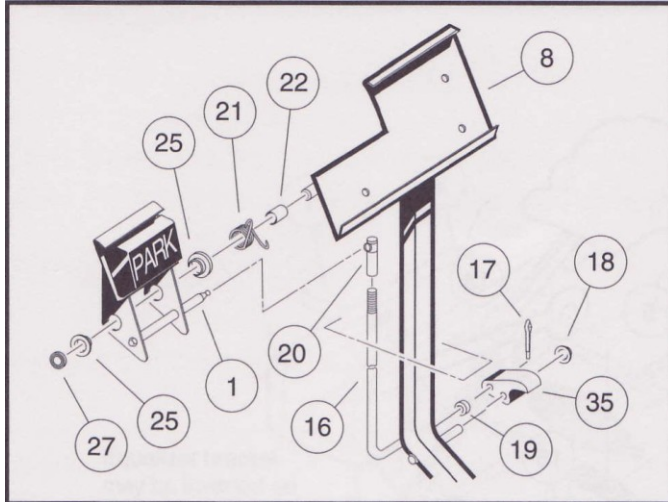
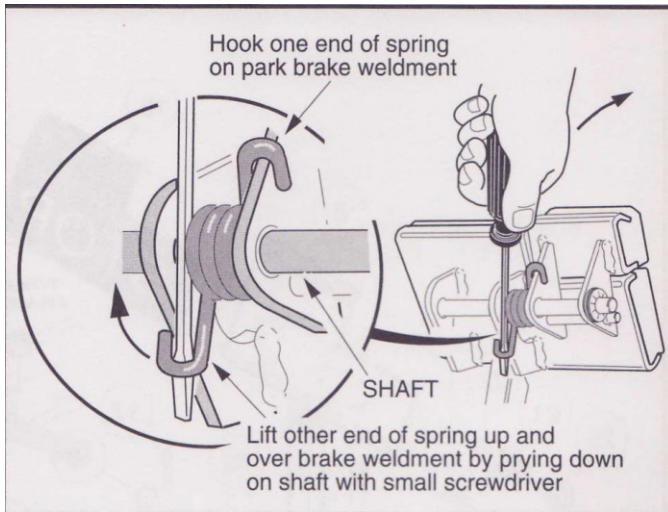

Figure 5-6
Figure 5-7
To remove the park brake pedal (1), remove the push nut (27), disconnect the torsion spring (21) (Figure 5-6) and slide the pedal off of the shaft. See preceding note.
1. From the bottom side of the floorboard, insert the park brake rod (16) through the brake pedal assembly opening shown. Then install the park brake pawl (35) onto the shaft on the brake pedal assembly weldment (8) and also insert the park brake rod (16) into the park brake pawl (Figure 5-6).
2. Install the push nut (18) onto the park brake pawl shaft.
3. Install the spacer (22) and torsion spring (21) on the park brake pedal shaft on the brake pedal weldment.
4. Install the two bushings (25) in the park brake pedal and position the park brake pedal on the shaft on the brake pedal assembly weldment (Figure 5-6). Then attach the end of the torsion spring to the park brake pedal and to the brake pedal weldment as shown (Figure 5-7).
5. Install the push nut (27) on the park brake pedal shaft (Figure 5-6).
6. Connect park brake rod (16) ball joint to ball stud on park brake pedal assembly.